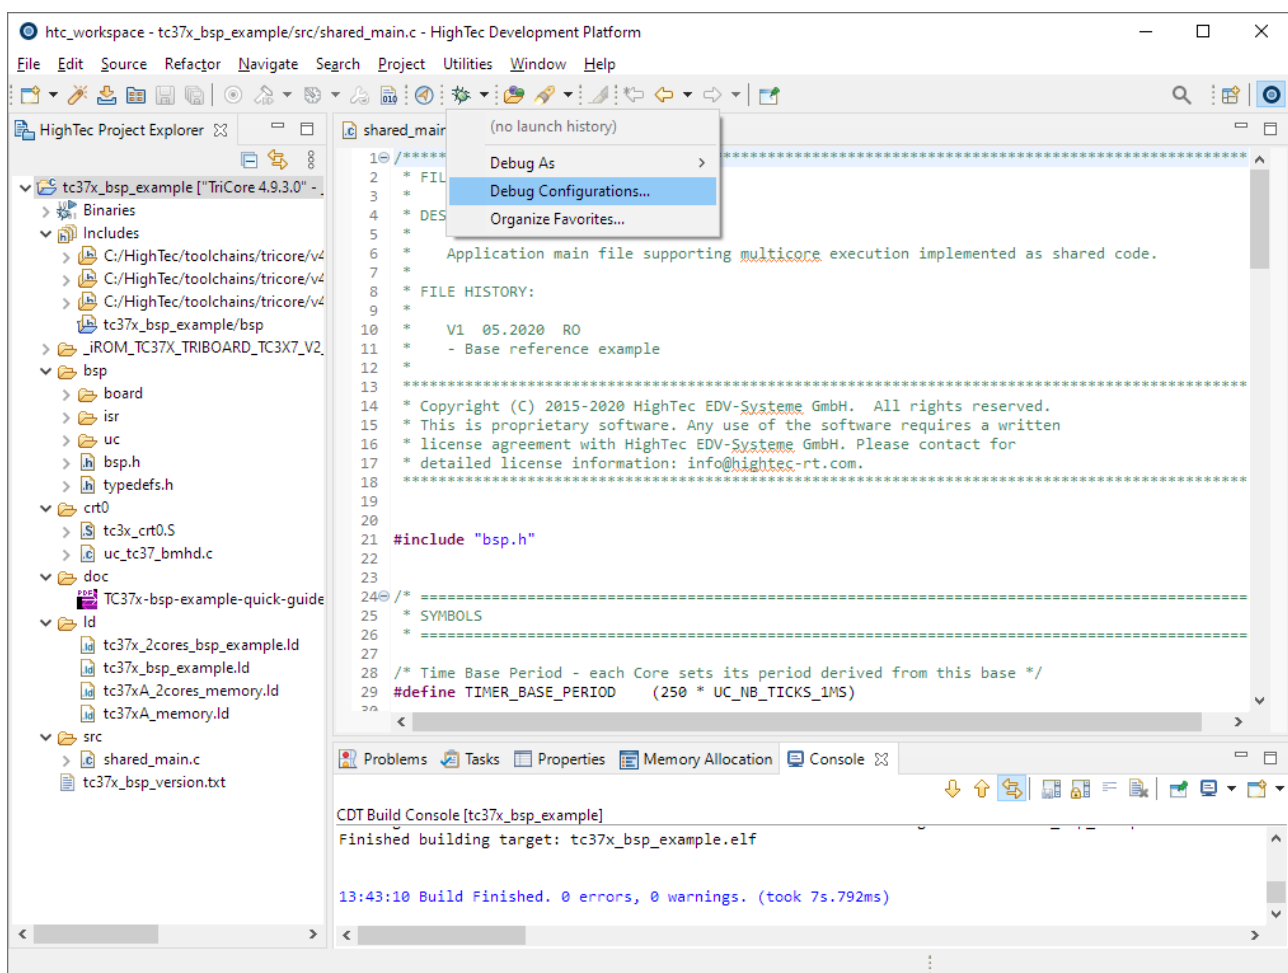

Figure 34 Select Debug Configurations dialog via Debug button
1. Click at the debug button  and select **Debug Configurations ...** (Figure 34).